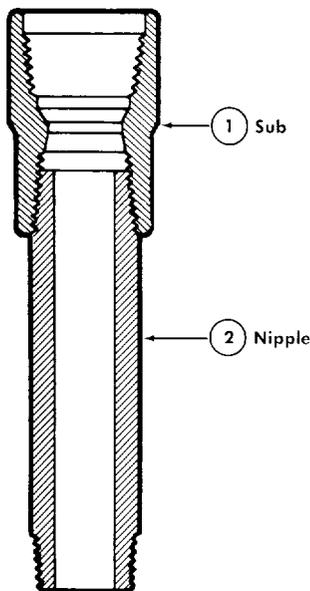

Fig. 14
*Choose size of lower Packer that requires the least set-down weight to retain the Seals in the bore of the Packer. If lower zone is the higher pressure, select the 30, 100 or 210 series (smaller bore) Packers. If the upper zone is the higher pressure, select the 40, 80 or 190 series Packers. The 30 and 100 series Packers might also be recommended because the Tubing Stop, which is used with these sizes of Packers, facilitates the recovery of the tubing below the top Packer should a fishing job be required. (See Tubing Stop, Fig. 14.)
7. Baker Tubing Stop, Product No. 704. (Refer to Fig. 14.) This product is positioned immediately above the top Tubing Seal Nipple for the lower Packer. It does not normally contact the Packer but contains an extension of such a length that if it should contact the Packer, the Top Tubing Seal Nipples will be positioned in the bottom end of the packer bore. Because it contains a Sub of sufficient diameter to seat on the top end of the Retainer Production Packer it serves as a means of holding a Fishing Neck above the "DA" Packer should the tubing or Flow Tube become sanded in. In such cases, the long string can be cut in the Flow Tube just below the Head and the Flow Tube recovered.